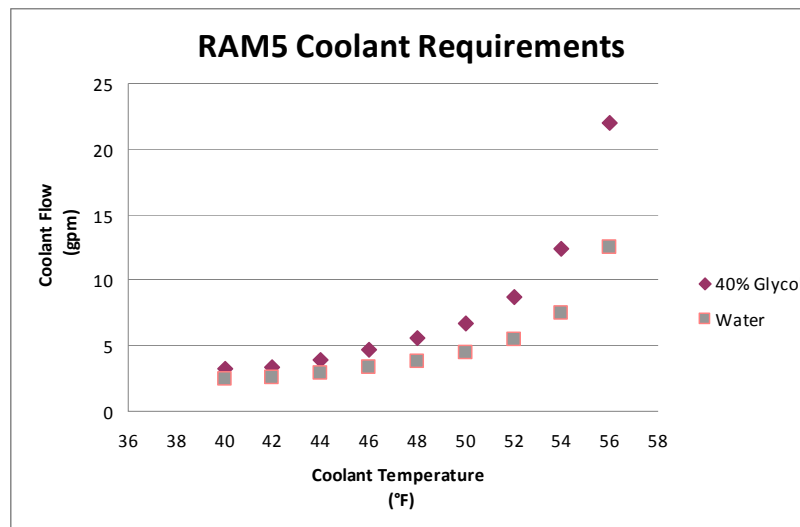

Figure 7: Cooling Flow and Temperature Requirements for Water and Glycol/Water
- RAM5 Mixers can be configured to be cooled via dedicated chillers that supply a 60/40 water glycol mixture, or facility cooling water with an internal water/glycol system. The graph in Figure 7 provides the flow and temperature requirements to provide adequate cooling to the mixer.